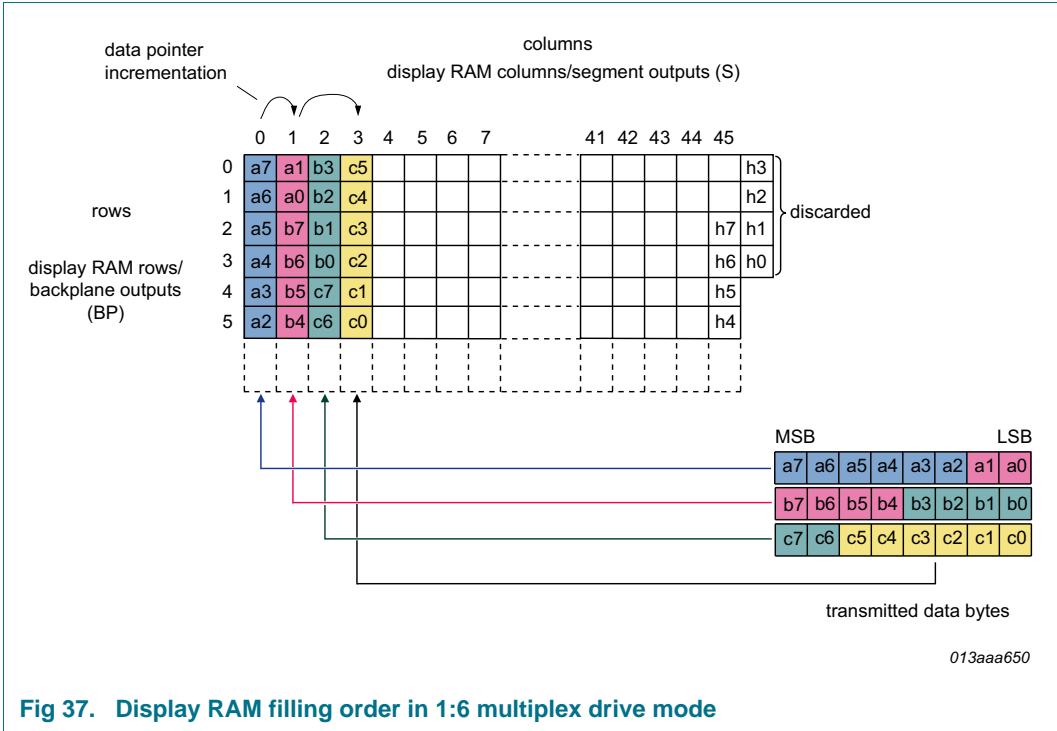

Fig 37. Display RAM filling order in 1:6 multiplex drive mode
- by one or two (1:6 multiplex drive mode), see Figure 37 on page 48
In the 1:6 multiplex drive mode the RAM is organized in six rows and 46 columns. The eight transmitted data bits are placed in such a way, that a column is filled up (see Figure 37). The remaining bits are wrapped up into the next column. In order to fill the whole RAM addresses 35 bytes need to be sent to the PCA8537, however the four least significant bits of the 35th byte are discarded.
When data transfer is initiated, then the MSB of the first byte will always be placed in row 0. Data must be transferred contiguously to achieve RAM filling as described in Figure 37.